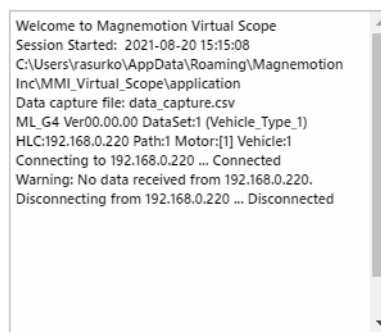

Figure 2-11: Connection Error, No Data
*If a connection is made to the motor specified but no data is received (vehicle is not on the motor), a diagnostic message that describes the error is displayed in the **Information Panel** above the **Run Controls** section as shown in Figure 2-11.*